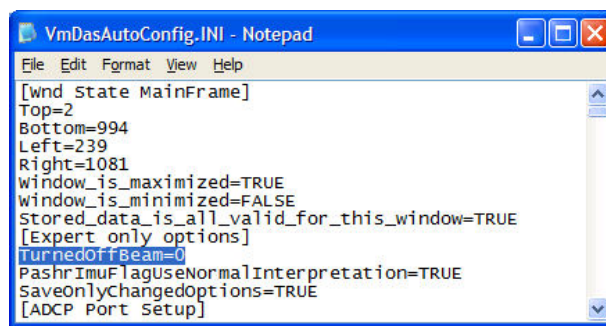

Figure 44. Disable a Beam
3. Locate the **[Expert only options]** line (see Figure 44).